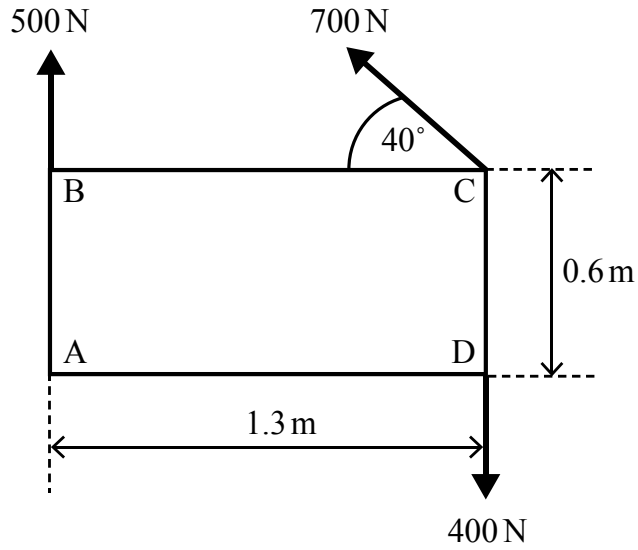

Fig. 1
- 1 A rigid, rectangular plate, ABCD, with a length of 1.3 m and a width of 0.6 m is acted upon by three co-planar forces with magnitudes of 500 N, 700 N and 400 N as shown in Fig.1.